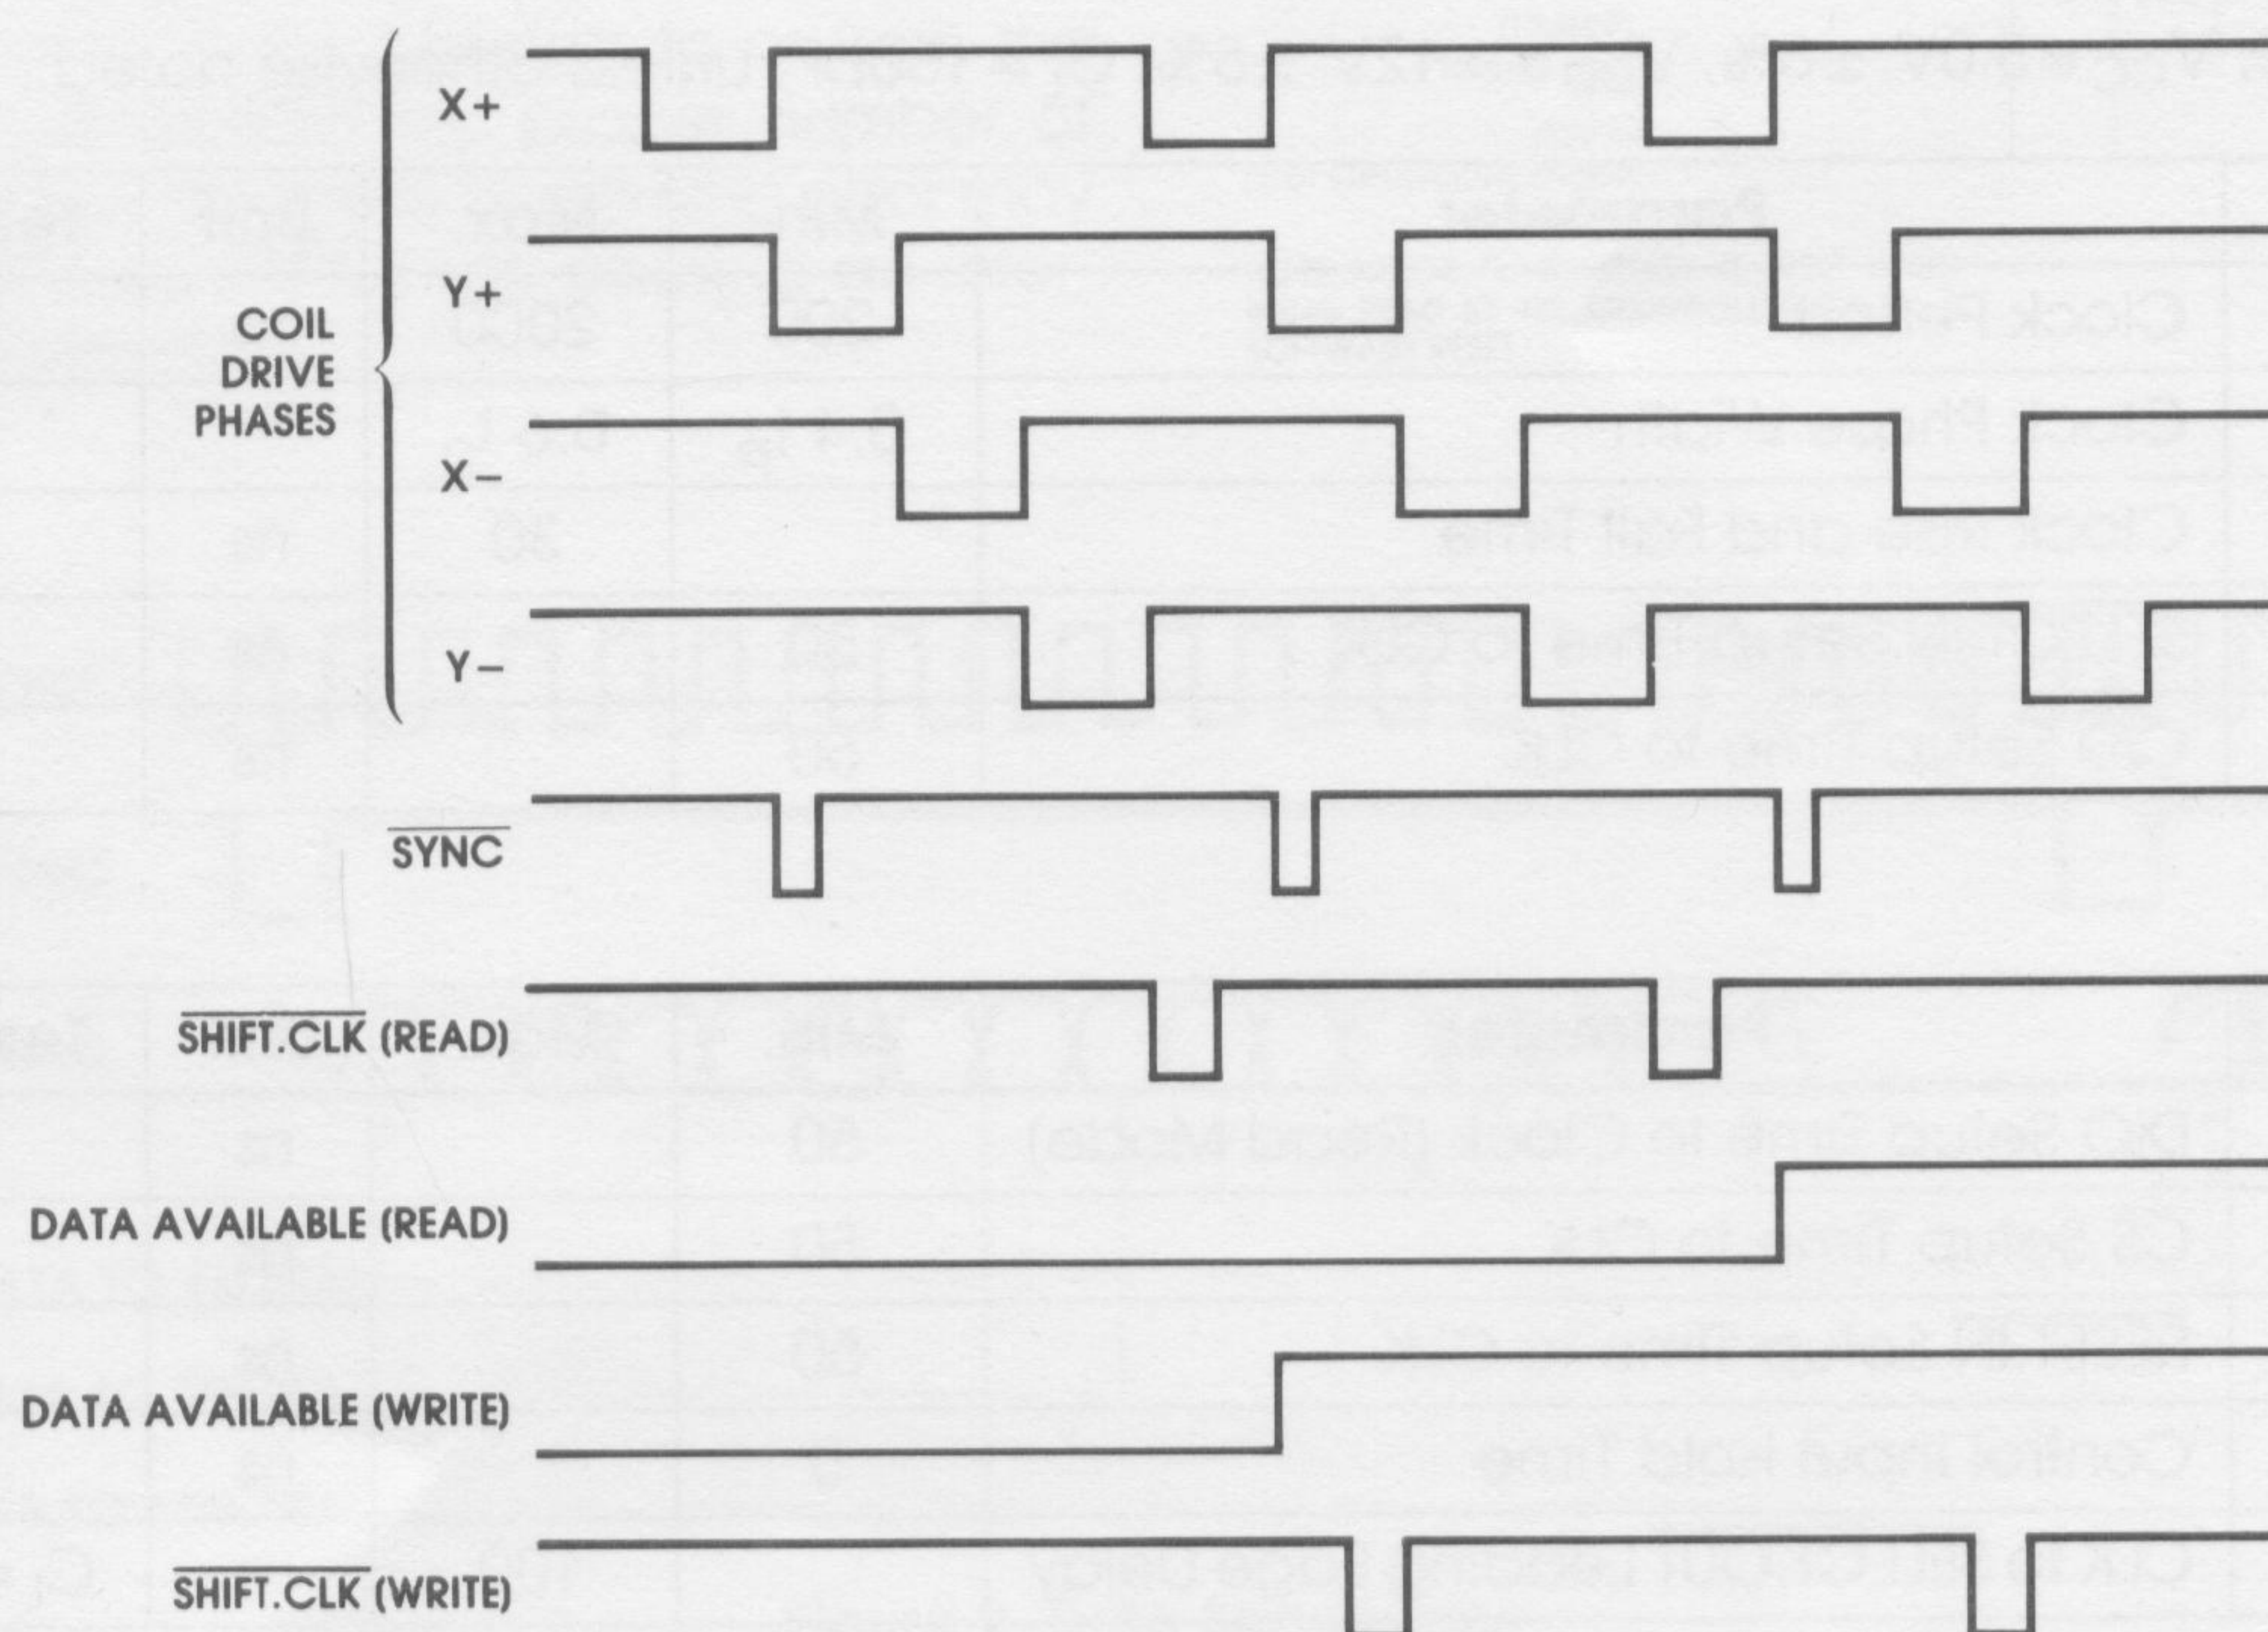

Figure 5. System Timing
- (1) Data read from the bubble memory into the FSA shall not be available to the Controller until two field rotations after $\overline{\text{SHIFT.CLK}}$.
- (2) Data cannot be written to the bubble memory until two field rotations after $\overline{\text{SYNC}}$ (see Figure 5).